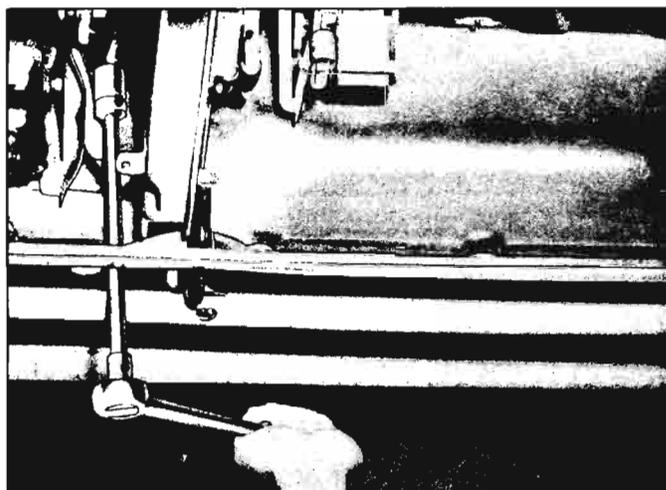

Fig. 5-35—Brake Pedal Removal
2. Remove nut washer retaining upper pedal assembly to lower pedal assembly. (Fig. 5-35). Tap end